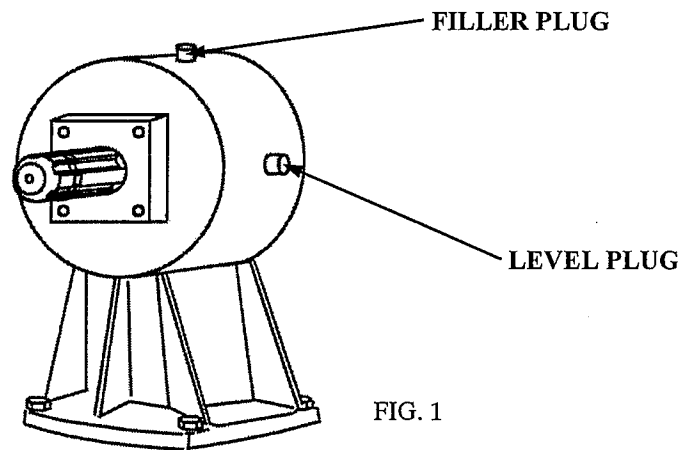

FIG. 1
- Check gearbox correct oil level. To proceed, remove the oil level plug (see fig. 1). If needed to add oil, remove the filler plug located on top of the box, and fill in until oil starts running out of the level hole.